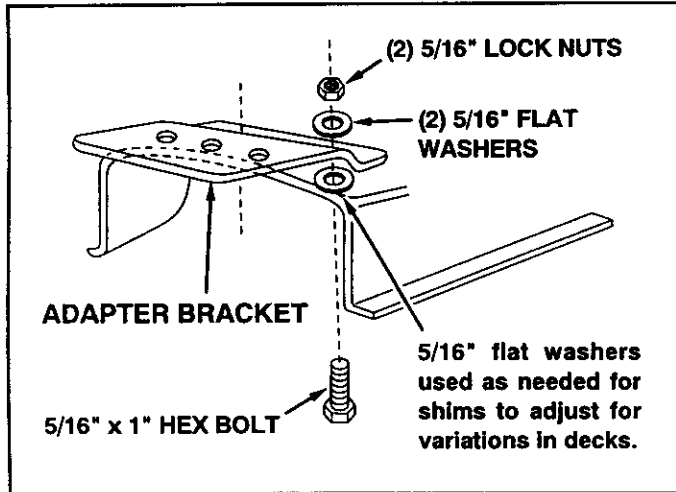

FIGURE 29
- Assemble the adapter bracket to the deck using two 5/16" x 1" hex bolts, 5/16" flat washers and 5/16" lock nuts. See figure 29.
**NOTE:** It may be necessary to use extra 5/16" flat washers to shim under the bracket next to the deck surface. Ten extra washers have been furnished as shims. See figure 29.